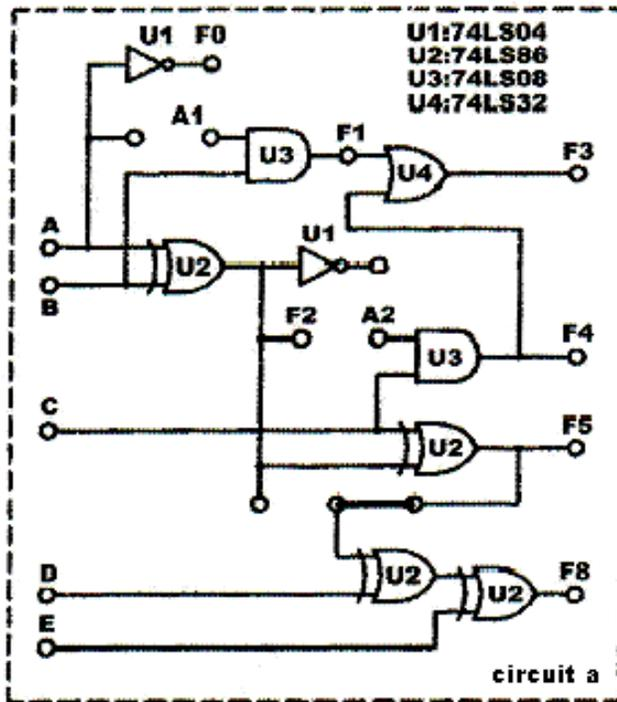
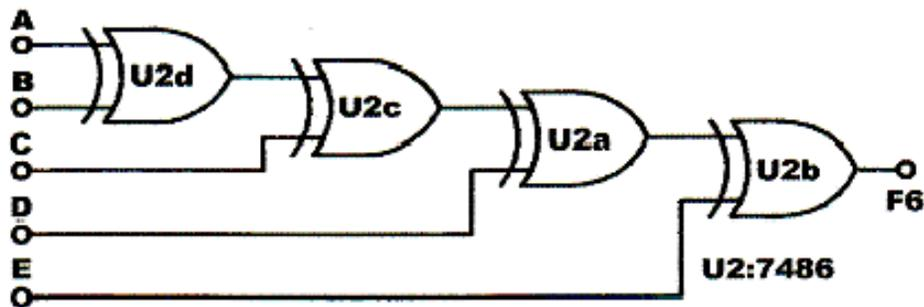

Fig. 2-58
Fig. 2-59 "Even" bit parity generator circuit
3. Insert connection clip according to Fig. 2-58 to construct the even bit parity generator circuit of Fig. 2-59.
- 2. If output F6 of the even bit generator circuit shown in Fig. 2-59 has incorrect output, what could be the problem?